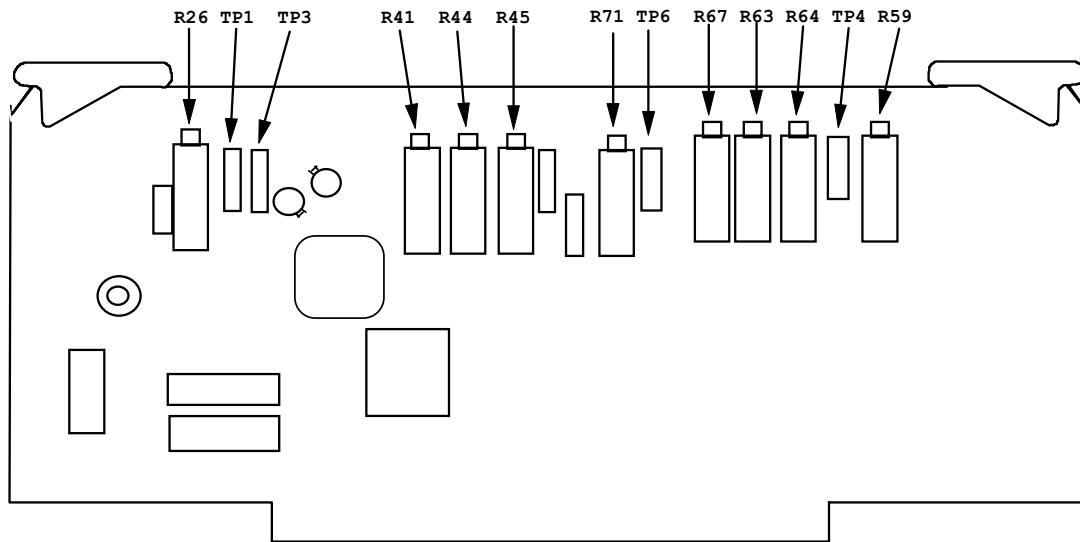

Figure 6. Tachometer circuit board.
(1) Connect frequency counter to TP6 (+) and TP3 (-) on tachometer board (fig. 6). If frequency counter does not indicate between 97 and 103  $\mu$ s, adjust R71 (fig. 6) for a 100  $\mu$ s indication.
(2) Connect oscilloscope **CH2** input between TP1 (+) and TP3 (fig. 6). If a symmetrical square wave is not on oscilloscope, adjust R26 (fig. 6) for best symmetrical waveform.
- (3) Adjust R41 (fig. 6) for **.0** on % **RPM** indicator (R).
- (4) Adjust R44 and R45 (fig. 6) for **100** on % **RPM** indicator (R).
- (5) Repeat **a** (1) through (11) above until no further adjustments are required.
(1) Connect multimeter between TP4 (+) and TP3 (-) on tachometer circuit board (fig. 6). If multimeter does not indicate between 7.840 and 7.880 V dc, adjust R67 (fig. 6) for 7.860 V dc (R).
(2) Adjust R59 (fig. 6) for **100.9%** indication on % **RPM** indicator(R).
(3) Adjust R64 (fig. 6) for **111.2%** indication on % **RPM** indicator (R).
(4) Adjust R63 (fig. 6) for **93.1%** indication on % **RPM** indicator (R).